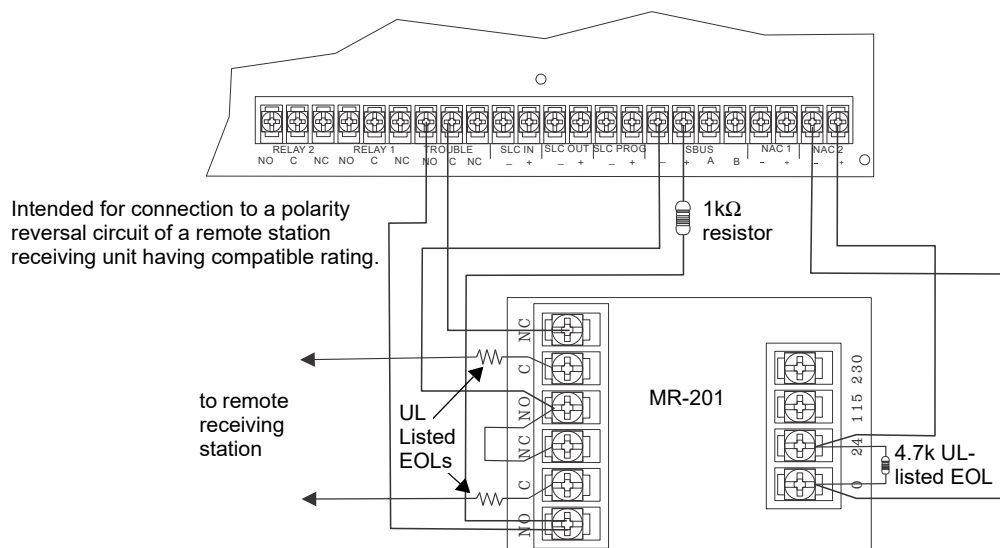

Figure 4.48 Polarity Reversal Connection Using the MR-201/T Relay
1. Wire the MR-201/T as shown in Figure 4.48.